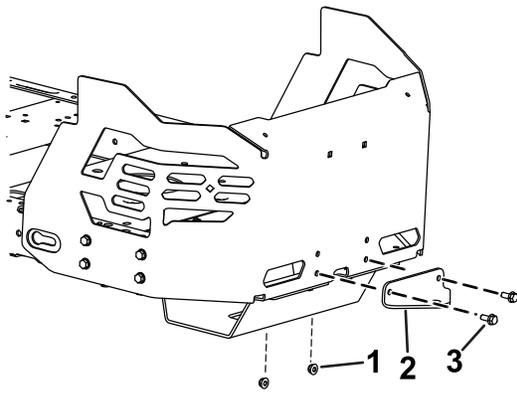

Figure 13
1. Remove the existing 2 bolts, 2 nuts, and hitch bracket from the bottom of the engine guard (Figure 13).